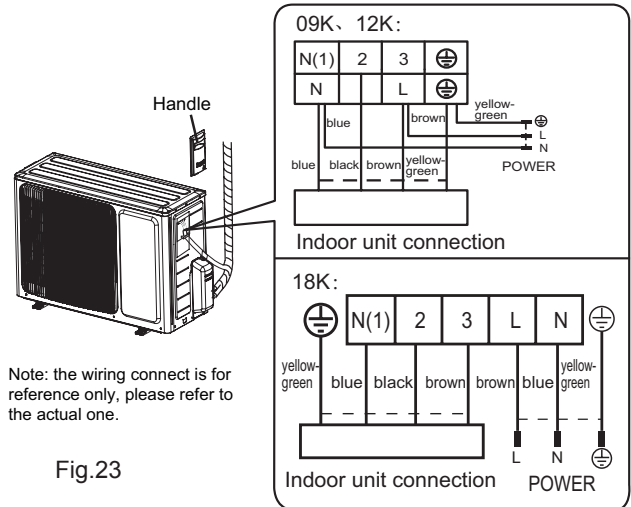

Fig.23
- (1) Remove the wire clip; connect the power connection wire and power cord to the wiring terminal according to the color ; fix the them with screws.(As show in Fig.23)